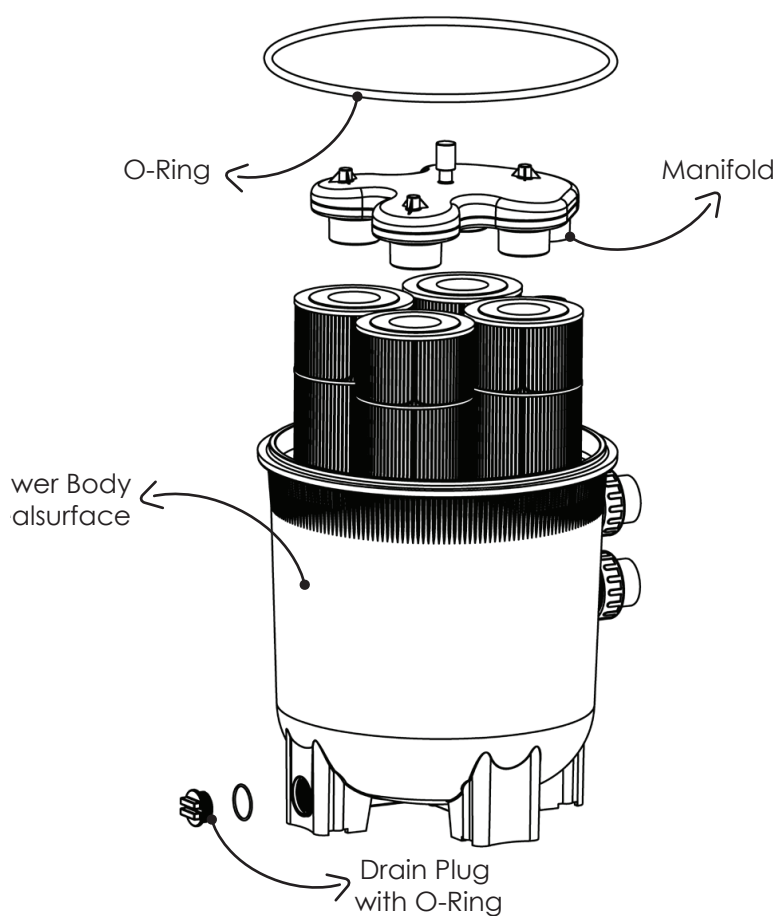

Figure 3
2. Close filter drain. NOTE: Filter Plug requires an O-Ring seal. (See Fig 3)
4. Remove Filter Drain Plug and drain water from the cartridge filter to a level below the height of the Lower Filter Body. (See Fig 3)
1. Remove the top Manifold, which is exposed when the upper Filter Body is removed. (See Fig 3)
2. With a clean cloth, wipe the Lower Filter Body seal surface and clean seal of all dirt and debris. (See Fig 3) Do not use a solvent.